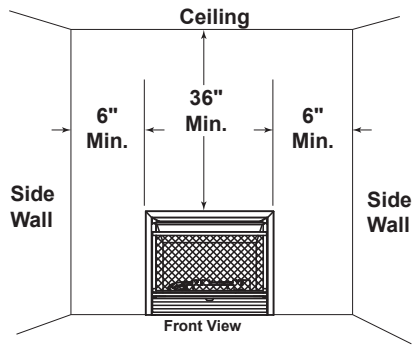

Figure 5 - Minimum Clearances to Wall and Ceiling
**⚠ WARNING:** You must maintain the minimum clearances shown in Figure 5. If you can, provide greater clearances from floor, ceiling, and joining wall. Measure from outermost point of heater.